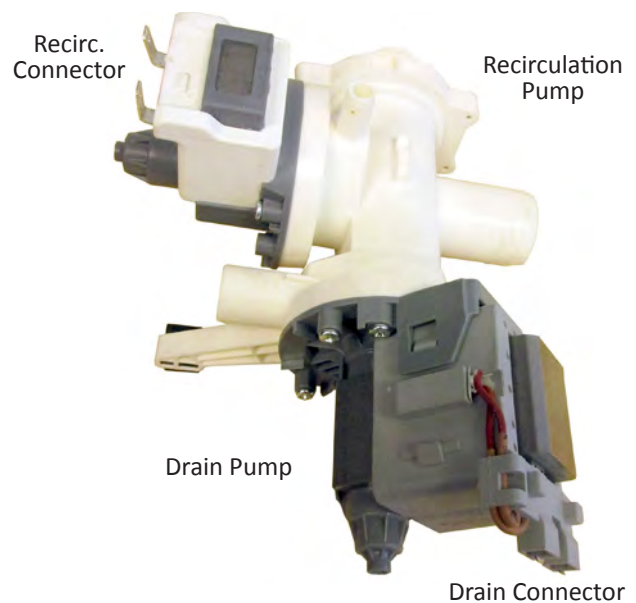

Figure 3
9. Remove pump assembly from washer/dryer. See Figure 3.